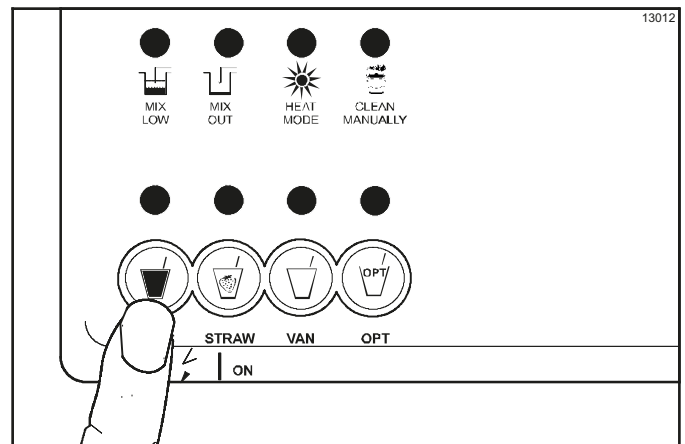

Figure 6-60
3. Push the corresponding syrup flavor key. The light should be illuminated. (See Figure 6-60.)